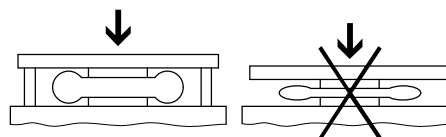

Fig. 3
- Make sure that the bellows actuator does not drop below the minimum height h_{min} . Example Fig. 3.